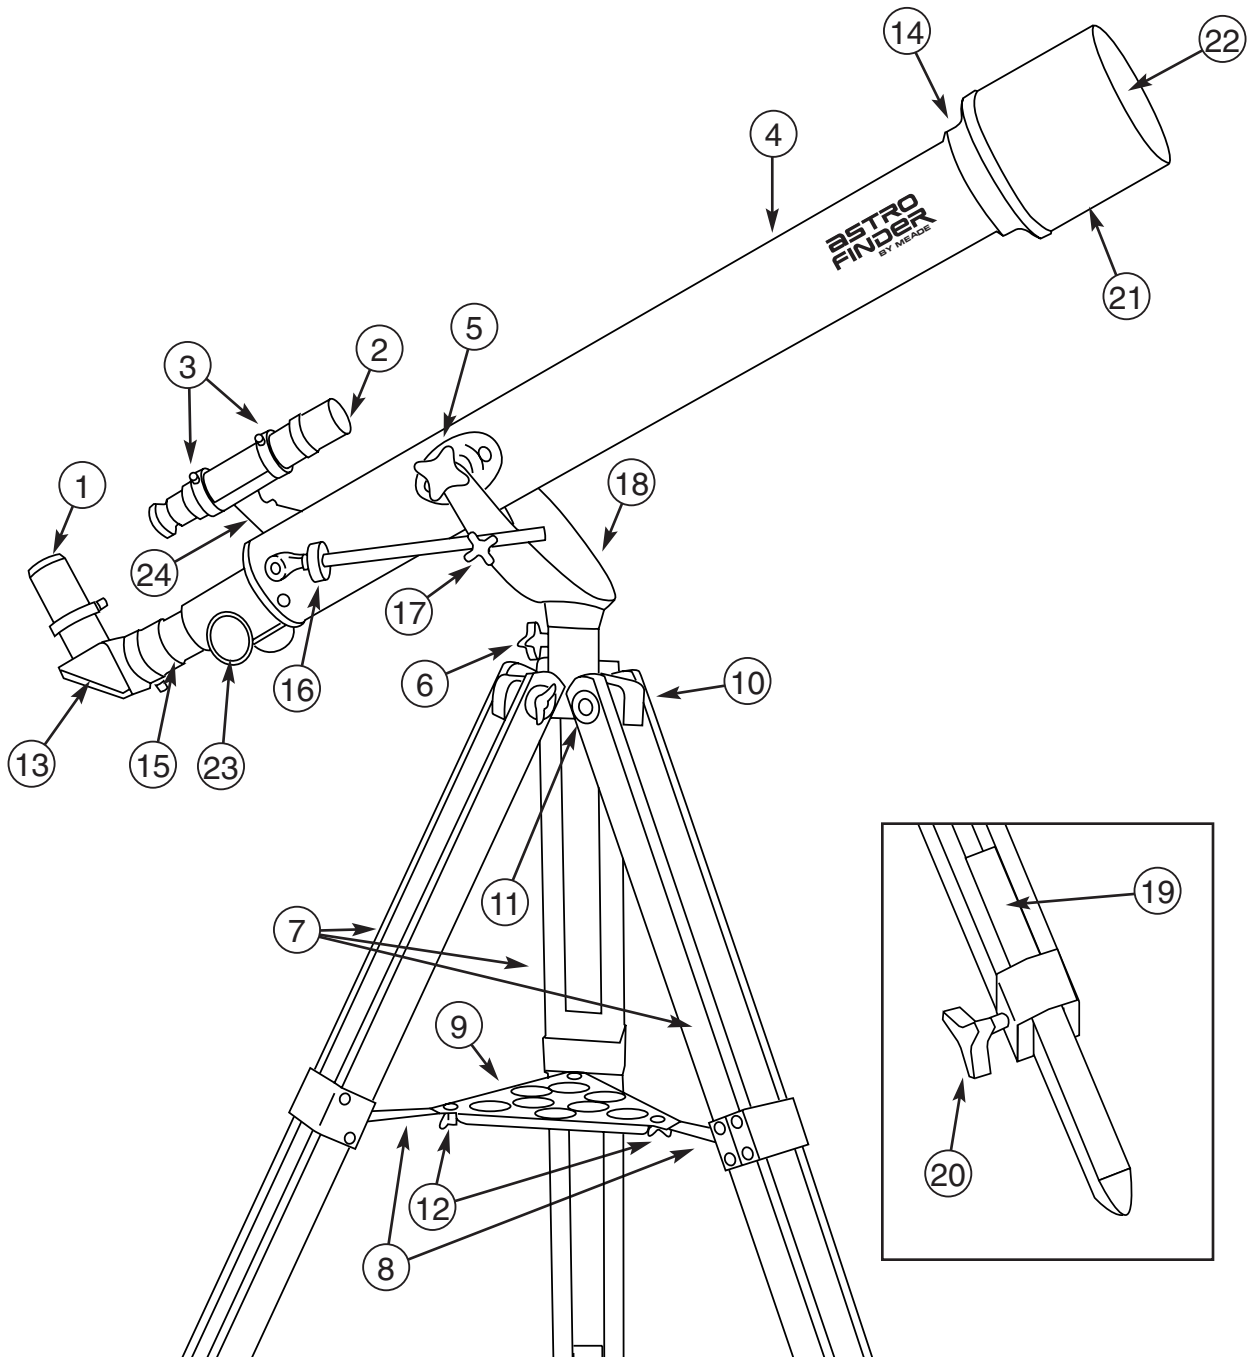

Figure 1: AstroFinder Model 60 Altazimuth Refracting Telescope
STANDARD EQUIPMENT (Refer to Fig. 1)
2. Attach the 3 aluminum tripod legs (**7, Fig. 1**) to the base of the altazimuth mount (**10, Fig. 1**) with the 3 hinged leg brace supports (**8, Fig. 1**) facing inward. Three bolts (**11, Fig. 1**), each about 3" long, with washers and wing nuts, are provided for this purpose in hardware package "A." Stand the telescope upright, spreading the tripod legs evenly apart so that the accessory tray can be positioned to attach to the 3 leg braces.
3. Attach the accessory tray (**9, Fig. 1**) to the leg brace supports (**8, Fig. 1**) with the 3 short screws and wing nuts (**12, Fig. 1**) provided in hardware package "B." Place the accessory tray on top of one of the leg brace supports (**8, Fig. 1**) of the tripod so that the mounting screw passes through the hole at one of the corners of the accessory tray (**9, Fig. 1**), and through the hole at the end of the leg brace. Then thread-on and tighten the wing nut to a firm feel only. Repeat this procedure until all 3 corners are mounted to the 3 leg braces.
4. Extend the sliding center portion of the adjustable height tripod leg (**19, Fig. 1**) to the desired length for all 3 legs. Lock in place by tightening the leg lock thumbscrew (**20, Fig. 1**) to a firm feel.
9. Attach the viewfinder bracket (**2, Fig. 1**) to the telescope using the 2 thumbscrews provided. These thumbscrews are pre-threaded into the main telescope tube at the viewfinder location. The thumbscrews fit through the 2 holes located at the base of the viewfinder bracket and thread into the main tube.
10. Insert the diagonal mirror (**13, Fig. 1**) into the focuser drawtube (**15, Fig. 1**) and the H 25mm eyepiece (**1, Fig. 1**) into the diagonal mirror. Tighten the respective thumbscrews to a firm feel.
11. The telescope is now completely assembled. To move the telescope and point it from one object to another, first slightly loosen one of the chrome-lock (star-shaped) knobs (**5, Fig. 1**) which serve as a vertical lock, then loosen the azimuth (horizontal) lock (**6, Fig. 1**). Also, slightly loosen the altitude coarse adjustment lock knob (**17, Fig. 1**). Loosening these locks allows the telescope to be moved freely (vertically or horizontally) in any direction so that the telescope can be positioned to center a terrestrial or celestial object in the telescopic field. Once a sky object is found the altitude lock knob (**17, Fig. 1**) can be tightened and the altitude slow-motion fine-adjustment control knob (**16, Fig. 1**) can then be used to make very smooth and accurate tracking in the vertical axis.
The 5 x 24mm viewfinder (**2, Fig. 1**) is a low-power, wide-field sighting device that, once aligned, will allow you to point the telescope with greater precision. **Note:** *When you look through the viewfinder, you will see a crosshair with images that will be upside-down; this is normal.*
1. Remove the lens cap (**22, Fig. 1**) of the optical tube assembly. Insert the 25mm wide-field eyepiece into the diagonal mirror (**13, Fig. 1**). Point the optical tube assembly (**4, Fig. 1**) at a distant land object (*e.g.* a distant telephone pole). Make sure the detail of the distant object you have chosen is in sharp focus. Focusing is accomplished by turning the focusing knob (**23, Fig. 1**) until the sharpest possible image is attained.
2. Center the viewfinder (**2, Fig. 1**) in both the front and rear rings using the collimation screws (**3, Fig. 1**). Next, looking through the viewfinder, adjust the collimation screws on the rear ring until the object centered in the telescope's main tube is likewise positioned in the center of the viewfinder's crosshairs. Now it is possible to quickly sight an object in the viewfinder first, then find that object approximately centered in the 25mm eyepiece of the telescope.
2. To center an object in the main telescope, first use the aligned viewfinder to find the object you wish to observe. If necessary, slightly loosen the vertical lock (**5, Fig. 1**) and the altitude rod lock knob (**17, Fig. 1**) to re-position the telescope so that the desired object can be centered in the viewfinder. When the object is centered in the viewfinder, it should then, also, be somewhere in the main telescope's field of view. Next, using the 25mm eyepiece, center the object in the main telescope's field of view, and sharply focus the image by turning the focus knob (**23, Fig. 1**).
To use the 3x Barlow lens, remove the diagonal mirror (**13, Fig. 1**) from the focuser drawtube (**15, Fig. 1**). Then insert the 3x Barlow lens, followed by the diagonal mirror (**13, Fig. 1**) and finally the 25mm eyepiece (**1, Fig. 1**). Refocus until the image is sharp.
As with any quality optical instrument, lens surfaces should be cleaned as infrequently as possible. A little dust on the surface of the objective lens (**14, Fig. 1**) causes negligible degradation of image quality and should not be considered reason to clean the lens. When lens cleaning does become necessary, use a camel hair brush or compressed air to gently remove dust. Wipe only with a soft, clean cloth, applying as little pressure as possible to avoid scratching glass surfaces. **Note:** Remove the dew shield/lens shade (**21, Fig. 1**) to access the objective lens (**14, Fig. 1**).